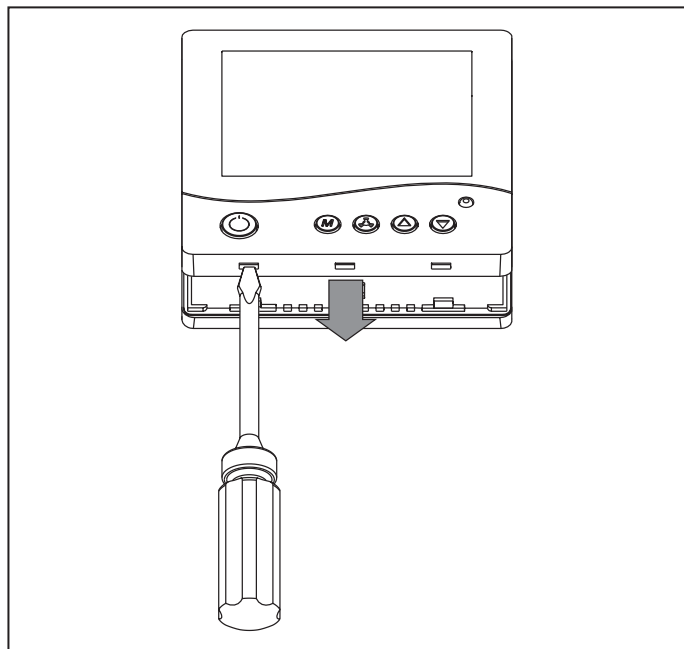

Fig. 4. Removal of the control panel back cover
□ Unlock the latches with a screw driver through the openings in the bottom of the wall-mounted control panel, fig. 4.